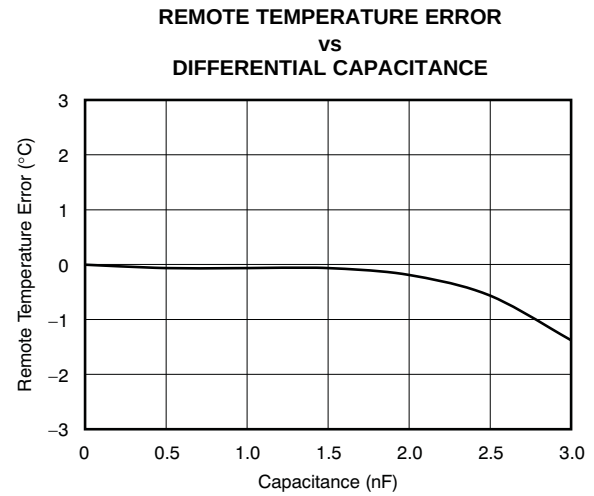

Figure 6.
(1) Diode-connected configuration provides better settling time. Transistor-connected configuration provides better series resistance cancellation.
(3)  $C_{DIFF}$  (optional) should be  $< 1000\text{pF}$  in most applications. Selection of  $C_{DIFF}$  depends on application; see the Filtering section and Figure 6, Remote Temperature Error vs Differential Capacitance.
(4) TMP422 SMBus slave address is 1001 100 when connected as shown.
The TMP422 tolerates differential input capacitance of up to 1000pF with minimal change in temperature error. The effect of capacitance on sensed remote temperature error is illustrated in Figure 6, *Remote Temperature Error vs Differential Capacitance*.